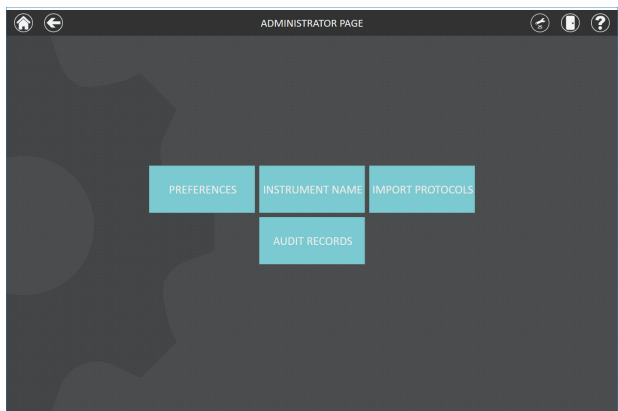

Figure 95. 'Administrator Page' screen.
2. On the 'Settings' screen, tap the **Administrator** button to open the 'Administrator Page' screen (Figure 95). This button is only visible if the current user has Administrator-level access to the GloMax[®] Software.